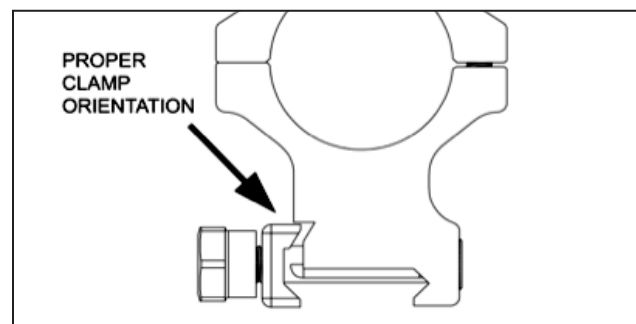

Figure 3.
**Ensure the ring clamp tightening nuts are on the left side during scope ring installation. See Figure 3 for proper clamp orientation. Do not attempt to remove the nut from the bolt.**